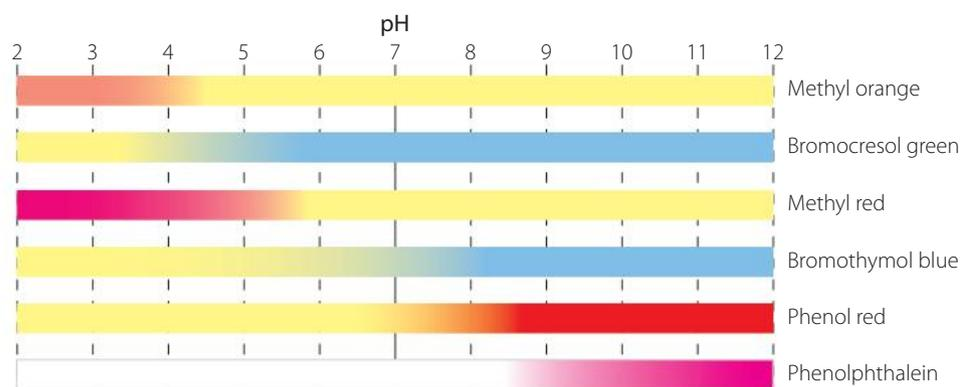

FIGURE 7.6 Colours of some common indicators over ranges of pH
During volumetric analysis, you need to be able to determine when the equivalence point has been reached. The physical sign that the equivalence point has been reached is called the ‘end point’. A simple way of observing the end point for an acid–base reaction is the use of an acid–base indicator. Acid–base indicators are used to visually show when a particular pH is passed. Different indicators change colour at different pH ranges, as shown in Table 7.1 and Figure 7.6. You were introduced to different acid–base indicators in chapters 5 and 6.
- A student used three indicators to determine the pH of a sample of water from the local river. The results were colourless in phenolphthalein, yellow in methyl orange and blue in bromothymol blue. Use Figure 7.6, to determine whether the sample of river water was acidic, basic or neutral.